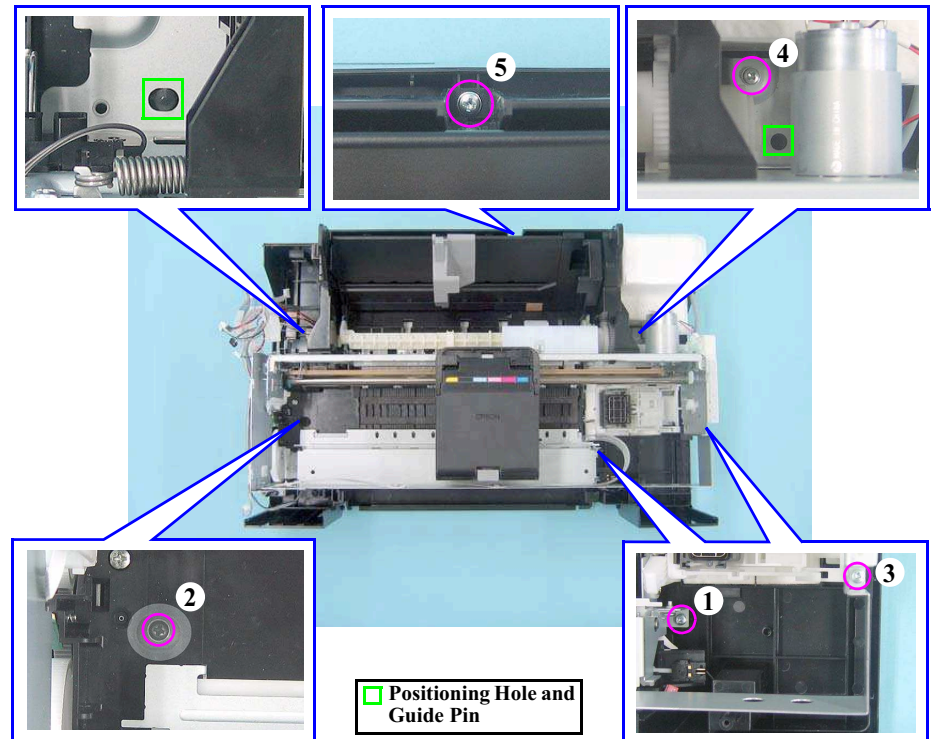

Figure 4-42. Removing the Printer Mechanism (3)
- Match the positioning holes with guide pins (two pairs) shown in Fig.4-42 (p.70).
- Tighten the screws in the order given in Fig.4-42 (p.70).